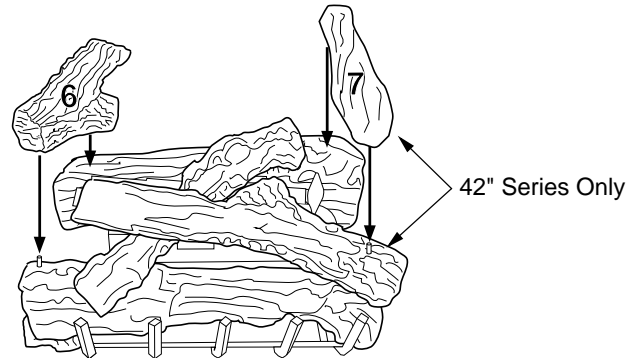

Figure 50 - Installing Log No. 6 and Log No. 7
6. Place log #6 (left log) onto left pin of front log (#2) and the smooth surface of rear log (#3) as shown in Figure 50. Make sure it is seated properly.
7. For (V)V42A series only, place log #7 onto right pin of top log (#5) as shown in Figure 50. Make sure it is seated properly